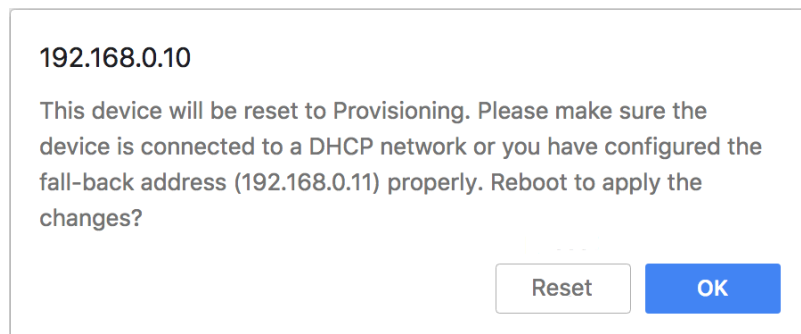

Figure 19. Unit reboot dialog (typical)
- The web browser will show the unit reboot dialog (Figure 19 \(page 54\)).